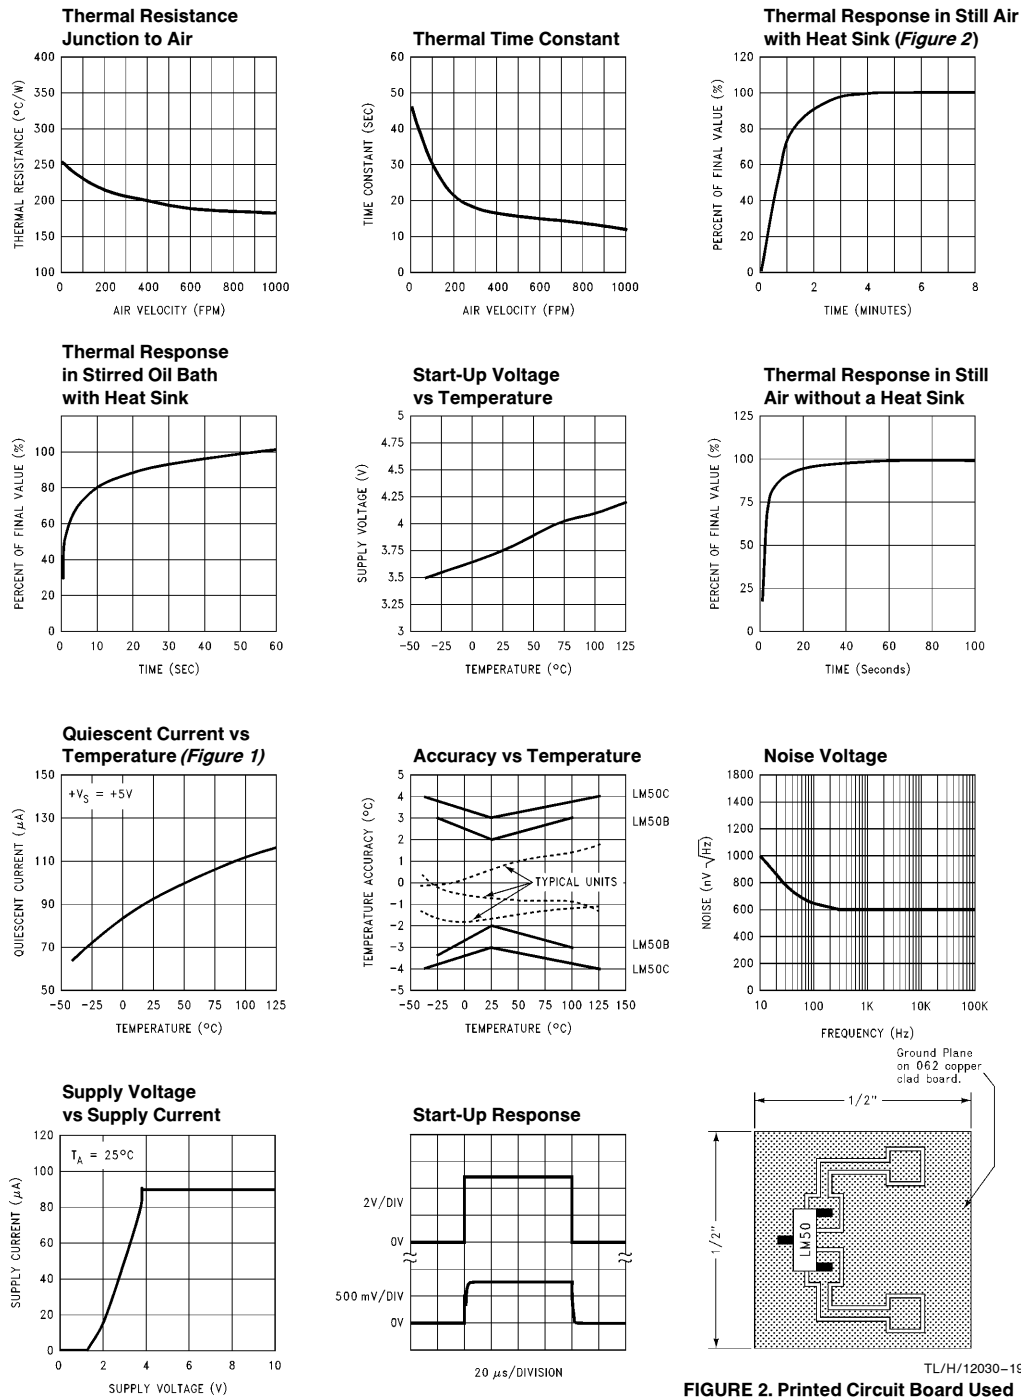

FIGURE 2. Printed Circuit Board Used for Heat Sink to Generate All Curves.
To generate these curves the LM50 was mounted to a printed circuit board as shown in *Figure 2*.
* Heat sink used is $\frac{1}{2}$ " square printed circuit board with 2 oz. foil with part attached as shown in Figure 2.